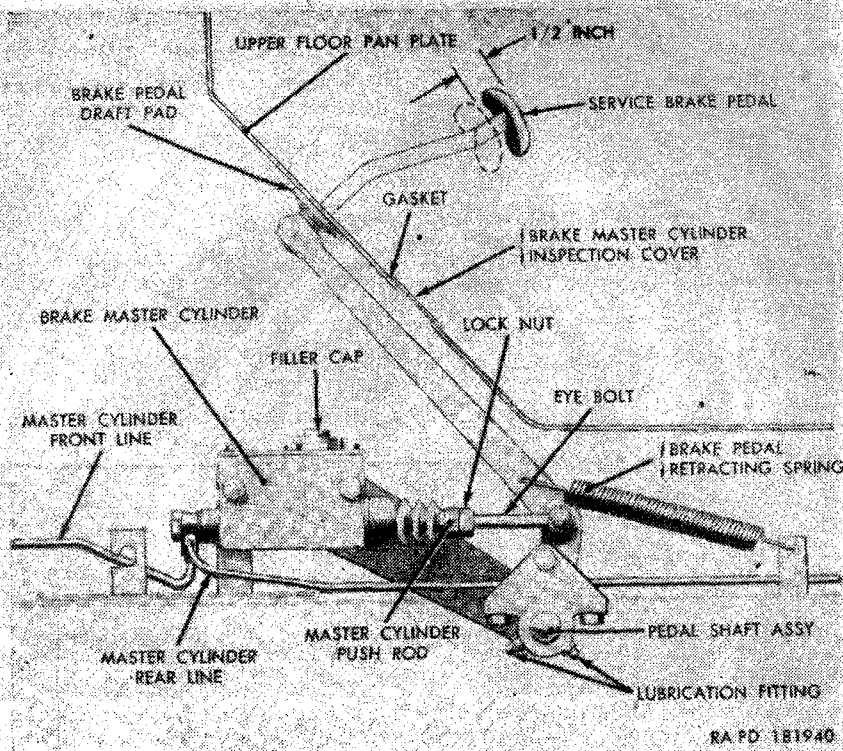

Figure 158. Service brake pedal and brake master cylinder linkage.
- (1) Loosen the steering gear mounting bolt (F). Loosen the bolt (Q) securing the front end of the master cylinder to the frame side rail. Raise the shield (P) to release the slotted ends of the shield from the loosened bolts and slide the shield toward the rear of the vehicle to remove.
- (2) Disconnect the stoplight switch cables number 75 at connectors (H and K).
- (3) Unscrew the nuts securing the master cylinder front and rear brake lines (J and B) to the outlet fitting (N) and pull the lines from the fitting. Place a suitable container under the fitting and allow the hydraulic brake fluid to drain into the container.
- (4) Remove the cotter pin and plain washer securing the master cylinder eyebolt to the stub shaft on the lower end of the brake pedal assembly (fig. 158) and slide the eyebolt from the shaft.
- (5) Work the boot (A) off the master cylinder end and remove the boot, master cylinder push rod, and eyebolt (fig. 158) as a unit.
- (6) Loosen the two machine bolts (Q) securing the tie bar (R) and master cylinder to the frame side rail (E), and pull the bolts out sufficiently to clear the side rail. Lower the master cylinder to the floor with the cylinder attached to the tie bar and with the rear end of the tie bar attached to the brake pedal shaft.
- (7) Pull the two machine bolts (Q), with lockwashers and plain washers, from the tie bar (R), and remove the master cylinder from the tie bar.
- (8) Unscrew and remove the stoplight switch (L) from the outlet fitting bolt (M). Unscrew and remove the bolt (M), outlet fitting (N), and two outlet fitting gaskets. Discard gaskets.
- (1) Install the stoplight switch (L) in the outlet fitting bolt (M). Slip a new outlet fitting gasket, the outlet fitting (N), and another new gasket over the end of the outlet fitting bolt in the order named. Insert the bolt into the front end of the master cylinder and tighten fingertight.
- (2) With the master cylinder push rod, eyebolt (fig. 158), and boot (A) assembled as a unit, insert the end of the push rod into the rear of the master cylinder and work the boot open end over the cylinder end.